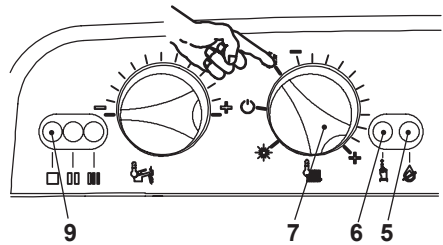

Fig. 7.3
- Turn the function selector 7 as in Fig. 7.3. The appliance operation light 9 will flash